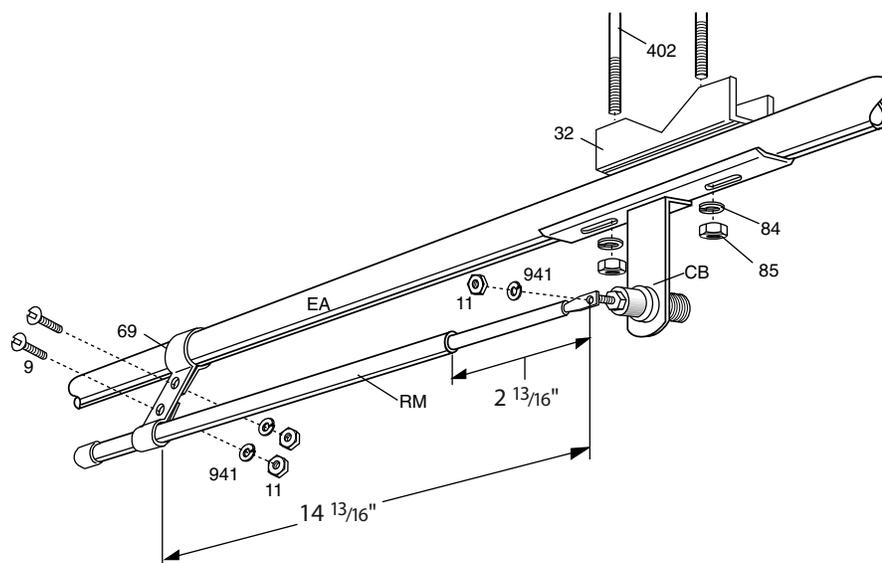

Figure 3: Gamma Match Configuration Showing Adjustment Dimensions
- The point on the Driven Element where the gamma rod shorting strap (Cushcraft item 69) is positioned. Refer to Figure 3, page 7.
- The amount of series capacitance presented by the coaxial capacitor built into the gamma rod. This is a function of the distance between the near end of the gamma tube (Cushcraft item RM) and the feed point—2 13/16" in the figure. Refer again to Figure 3. The shorter this dimension, the more series capacitance, and vice-versa.